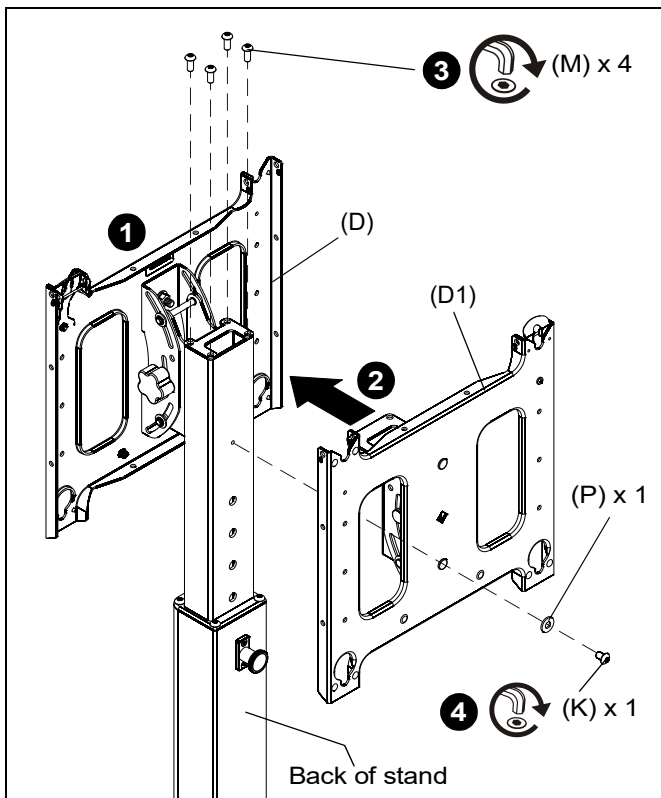

Figure 6
1. Slide front head assembly (D) into the stand assembly. (See Figure 6)
2. Place back head assembly (D1) on the back of the stand assembly, and on top of the front head assembly. (See Figure 6)
3. Use four 5/16-18 x 3/4" button head cap screws (M) to fasten through both head assemblies. (See Figure 6)
4. Fasten through back head assembly (D1) and back of stand assembly using one 1/4-20 x 3/8" button head cap screw (K) and one 1/4" washer (P). (See Figure 6)